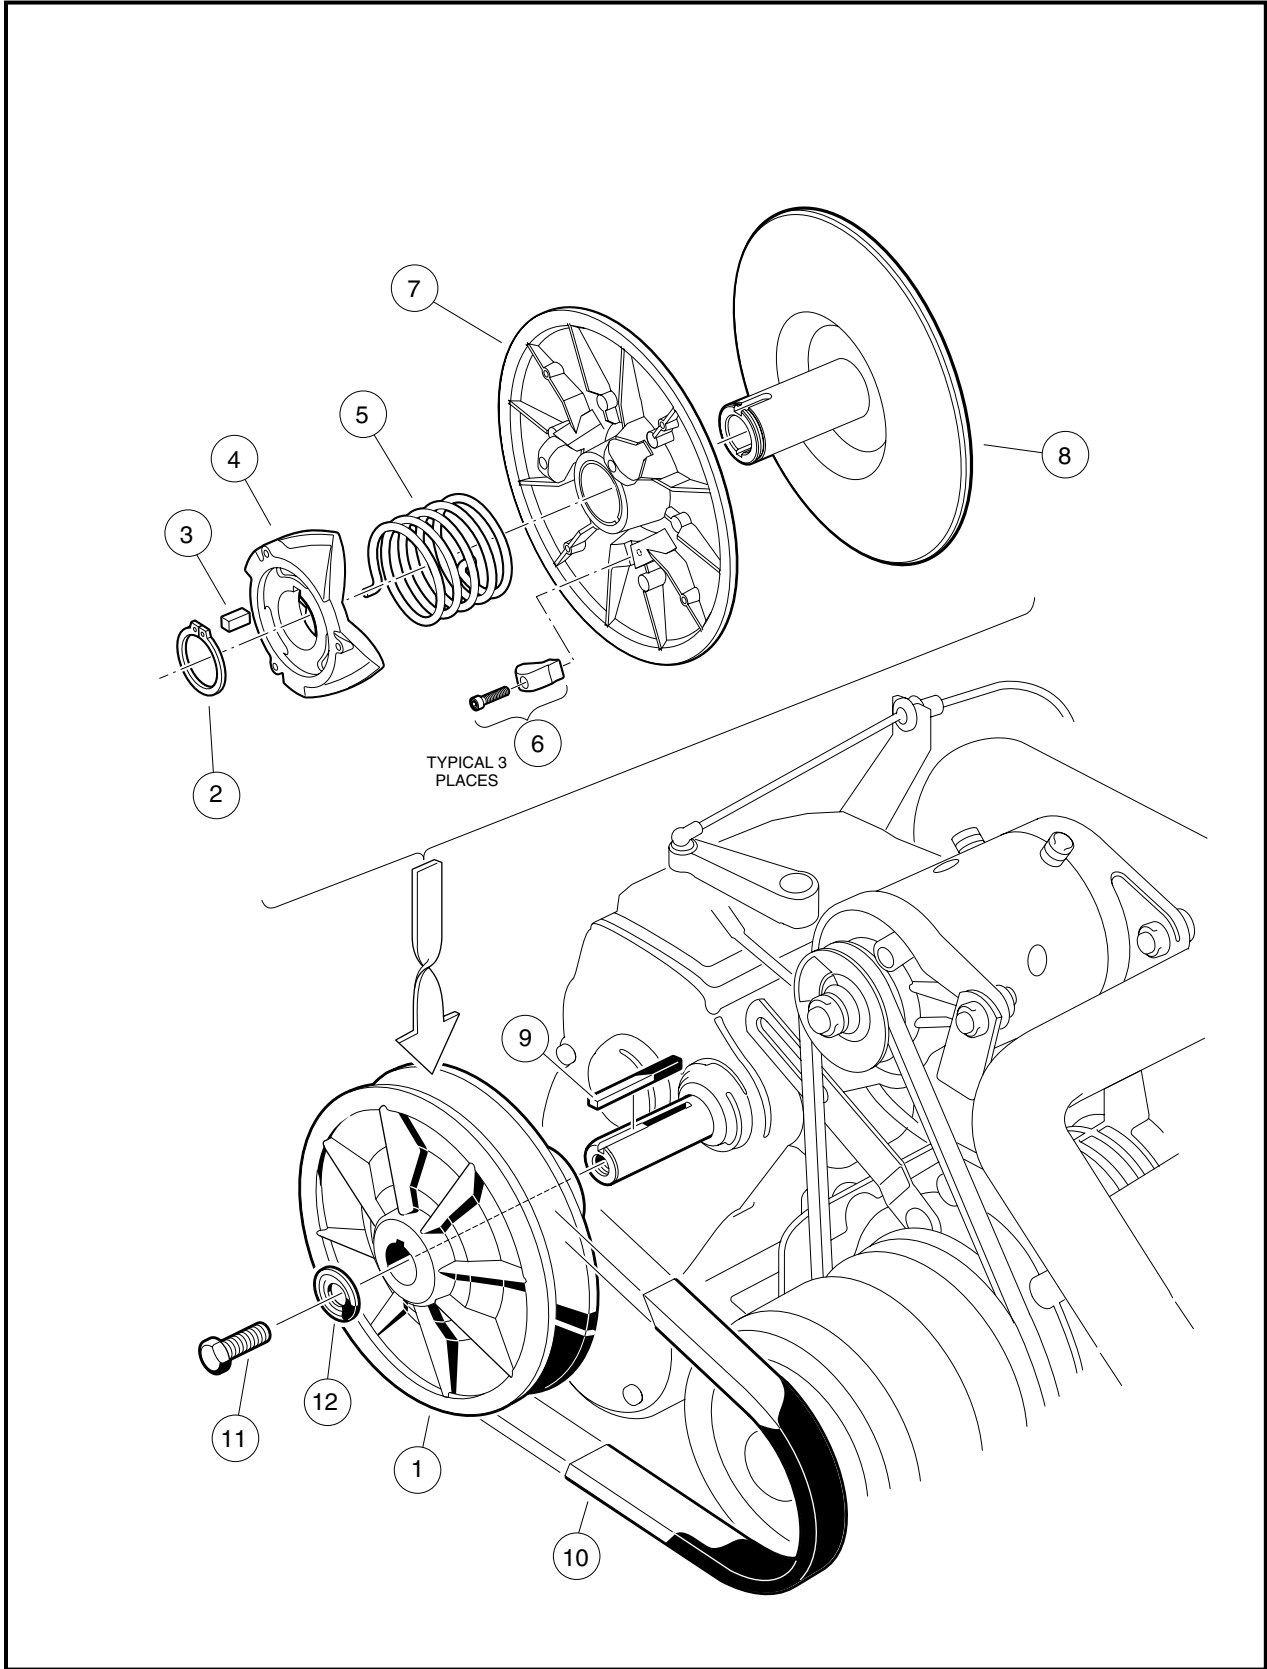
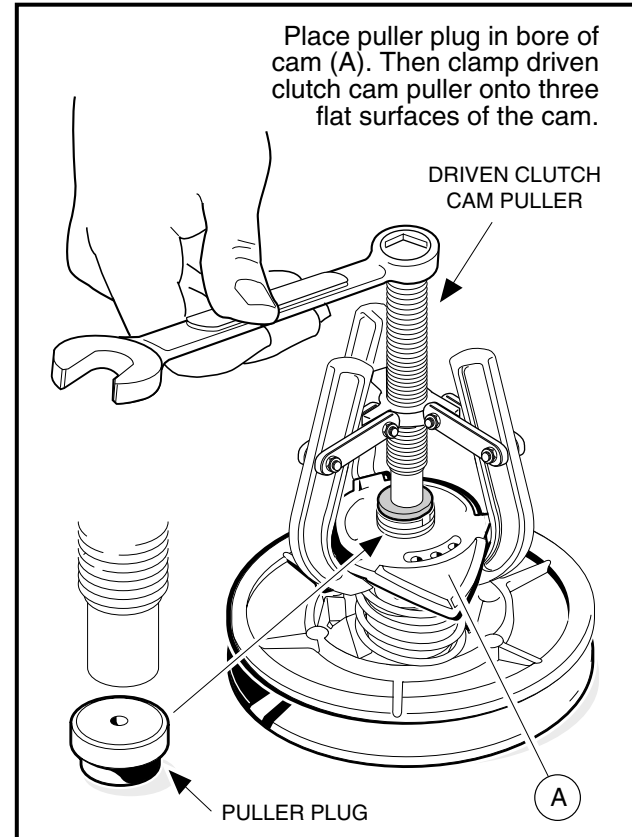

Figure 17-16 Driven Clutch Assembly
Figure 17-18 Driven Clutch Disassembly
7. Remove the bolt (11) and mounting washer (12) from the clutch shaft (**Figure 17-16, Page 17-15**).
9. Leave the key (9) in the keyway (**Figure 17-16, Page 17-15**).
2. Insert a puller plug (CCI P/N 1014507) (**Figure 17-18, Page 17-16**) into the shaft bore and use a driven clutch cam puller (CCI P/N 1014508) to remove the cam (4) from the fixed face shaft (8). Retain the key (3) (**Figure 17-16, Page 17-15**).
3. Remove the spring (5) (**Figure 17-16, Page 17-15**).
4. Slide the moveable face (7) off the fixed face shaft (8) (**Figure 17-16, Page 17-15**).
1. Inspect the cam (4) for excessive wear. Replace it if necessary (**Figure 17-16, Page 17-15**).
2. Inspect the drive buttons (6) for excessive wear. Replace if necessary. To remove the drive buttons, remove the socket-head cap screws and then the buttons (**Figure 17-16, Page 17-15**).
1. Place the three drive buttons (6) in position. Apply one drop of Loctite® 222 to each of the socket head cap screws and then install and tighten them to 8 in-lb (0.9 N-m) (**Figure 17-16, Page 17-15**).
2. Slide the moveable face assembly (7) onto the fixed face shaft (8).
3. Place the end of the spring (5) into hole in the moveable face assembly.
4. Install the key (3) into the keyway of the fixed face assembly (8) shaft.
5. Holding the cam (4) in position for assembly on the shaft, install the other end of the spring (5) into the center spring hole of the cam. Rotate the cam until the keyway is aligned with the key (3) on the fixed face assembly, and then start the cam onto the shaft approximately 1/4 to 3/8-inch (6.3 to 9.5-mm).
- 5.1.3. Install the retaining ring (2) (**Figure 17-16, Page 17-15**). **See following NOTE.**
1. To install the driven clutch, reverse the removal procedure. Make sure that the washer (12) is mounted with the flat portion of the washer against the driven clutch as shown (**Figure 17-16, Page 17-15**). Secure with a *new* bolt (11). **See following NOTE.**
**NOTE:** *The bolt (11) must be replaced with a new bolt (CCI P/N 102242101) containing a locking patch that will prevent the bolt from loosening.*
2. Tighten the bolt (11) to 14 ft-lb (19.0 N·m).